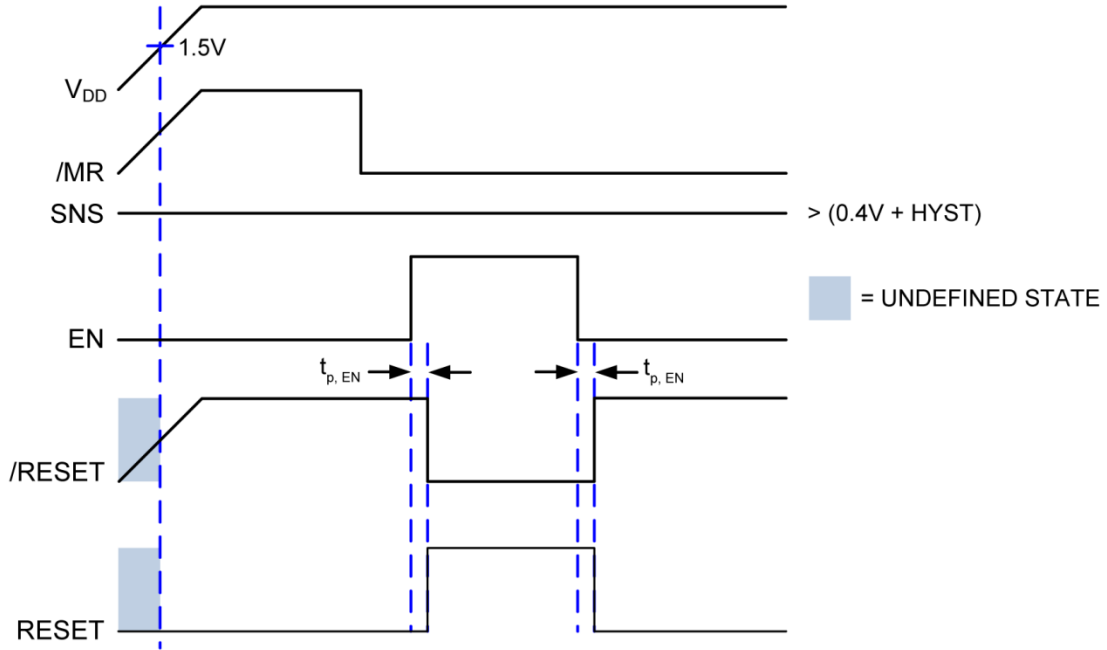

Figure 3. Hold and Propagation Delay from EN to RESET and /RESET
The enable (EN) pin feature is only available in the MIC2793 option and has an internal pull-up of 90k Ω resistor to VDD. A logic high signal on EN pin enables the reset logic outputs, while a logic low signal disables the reset outputs. See Figure 3 in the Timing Diagrams section for more information.